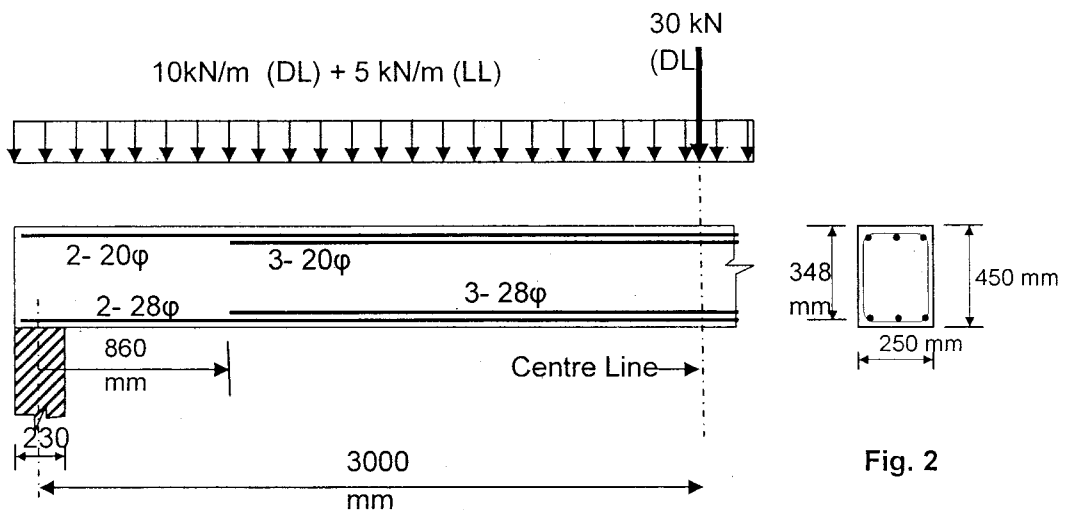

Fig. 2
2. Design shear-reinforcement for the doubly reinforced beam shown in Fig. 2. The beam is simply supported with a total centre-to-centre span of 6.0 m. Use 8mm ϕ vertical stirrups made of Fe 250 steel. The shear at the bar-cutoff point (860 mm from centre of support) also needs to be checked. The concrete is of M25 and flexural steel of Fe 415. (40)